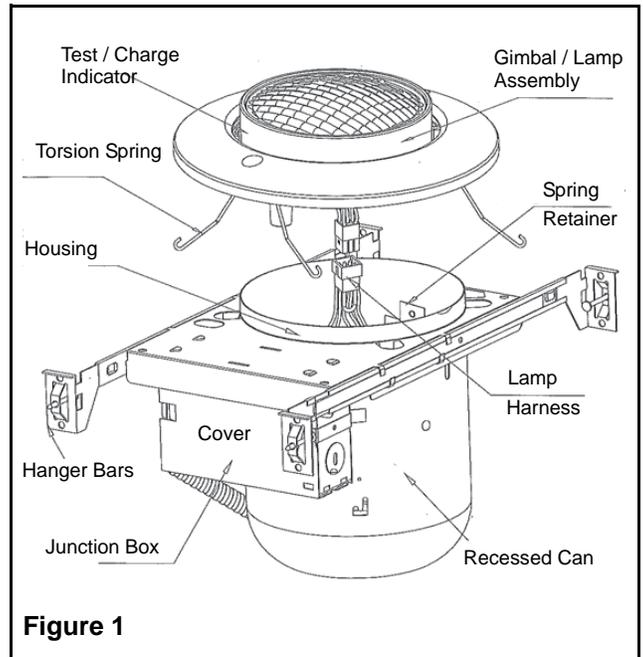

Figure 1
9. Connect the lamp harness together (fig.1).